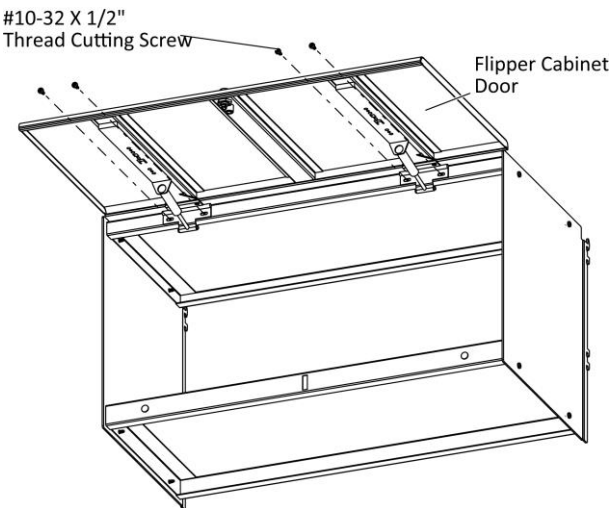

Figure 3
- 3. Securely fasten the flipper cabinet door to the flipper cabinet top with a #10-32 X 1/2" Thread Cutting Screw, (Figure 3).